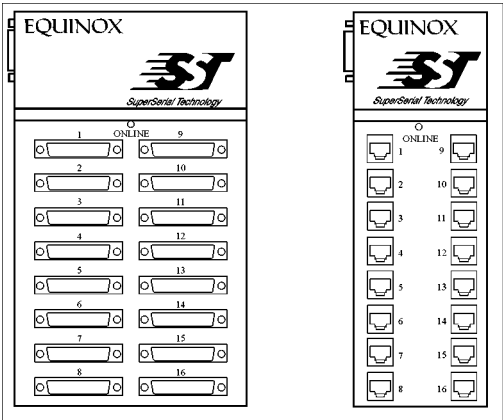

Figure 2. DB-25 and RJ-45 Connector Panels
SST-16I Connector Panels (CP) provide sixteen RS-232 interfaces. There are two types of CPs available from Equinox as shown in Figure 2 below. The DB-25 CP has sixteen female DTE connectors (see Figure 3 below). The RJ-45 CP has sixteen 10-wire female RJ-45 connectors (see Figure 4 below).